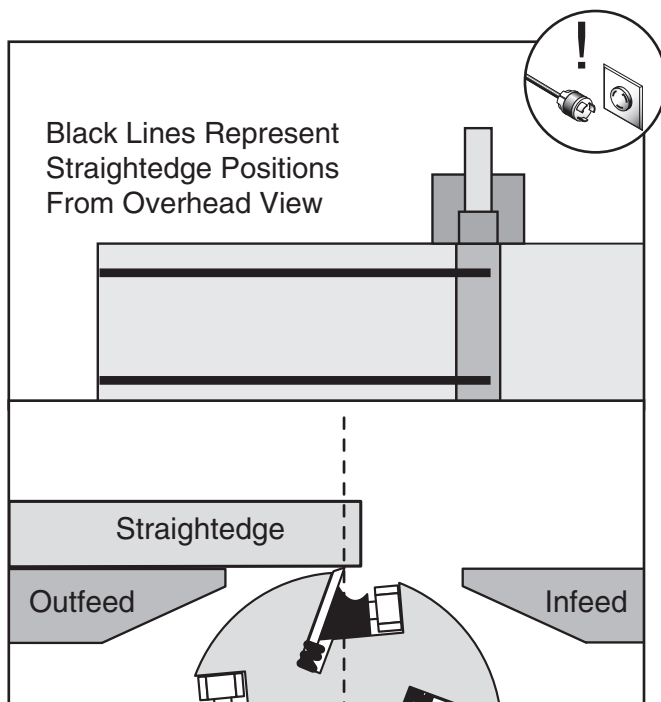

Figure 42. Checking knife height with a straightedge.
4. Using a straightedge, check the height of each knife at its highest point in relation to the outfeed table, in each of the straightedge positions, as shown in **Figure 42**.
Straightedge Method: A high quality straightedge is held flat against the outfeed table and the knife heights are set to the bottom of the straightedge, as shown in **Figure 42**. Because the knife projection height from the cutterhead is dependent on the outfeed table height, the outfeed table must be set as described in **Setting Outfeed Table Height** on **Page 39** for this method to work correctly.